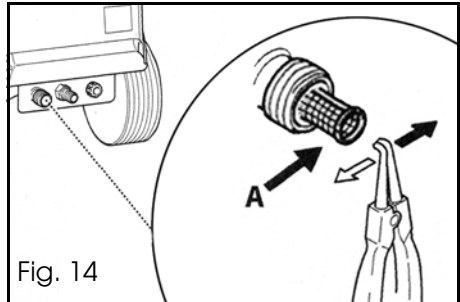

Fig. 14
Check the filter in the water inlet connection (A) fig. 14.